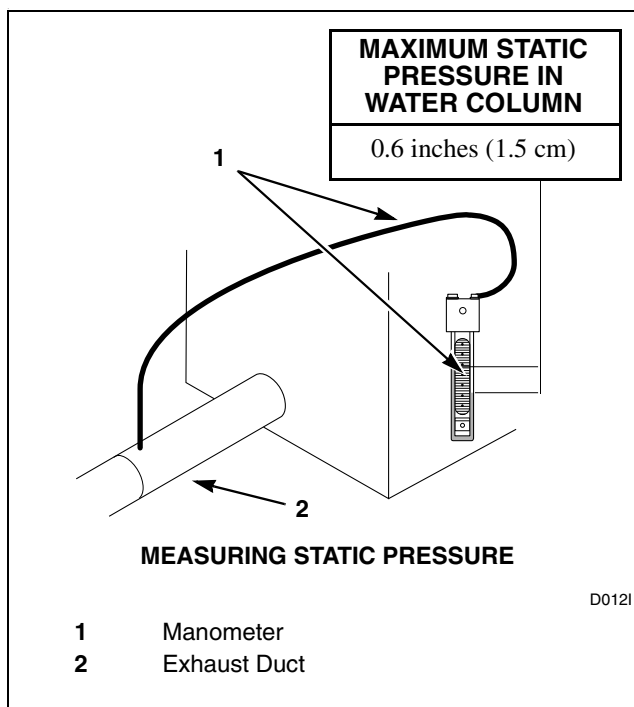

Figure 24
Static pressure in the dryer unit's exhaust duct should be no greater than that shown in *Figure 24*. (Check with dryer unit running and no load.)
**NOTE: This can be measured with a manometer placed on the exhaust duct approximately 2 feet (61 cm) from the dryer unit. Refer to *Figure 24*.**
**IMPORTANT:** Static pressure in each dryer’s exhaust duct should be no greater than that shown in *Figure 24*. This can be measured with a manometer placed on the exhaust duct approximately 2 feet (61 cm) from the dryer. Refer to *Figure 24*. All dryers connected to the main collector duct should be in operation when pressure is checked.